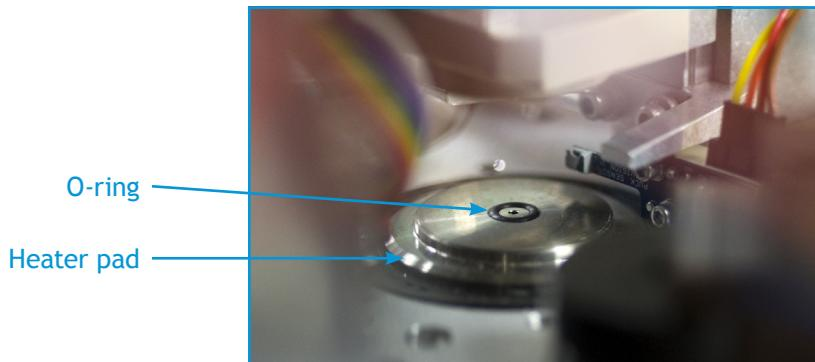

Figure 5-13: O-ring in heater pad
1. Using an inspection mirror, check O-rings located on the underside of the clamps above the processing and collection stage. Check the O-rings on the heater pads. (See Figure 5-13.) Touch them and compare them to a new O-ring. If any O-rings appear worn or hardened, replace them.